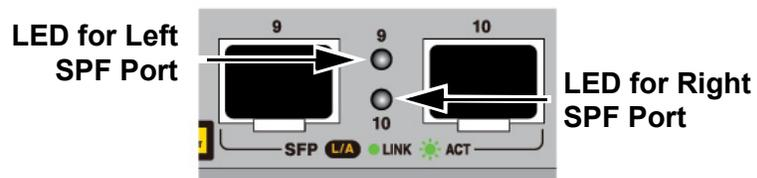

Figure 4. SFP Transceiver Ports LEDs
**LEDs** Each transceiver port has one LED. Refer to Figure 4.